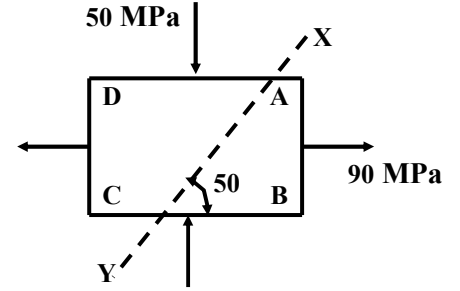

Figure-4 Q-4 (a) OR
- Q.4 (a)** Calculate the normal and tangential stress on a plane XY for the element stressed as shown in **figure-4**. **07**